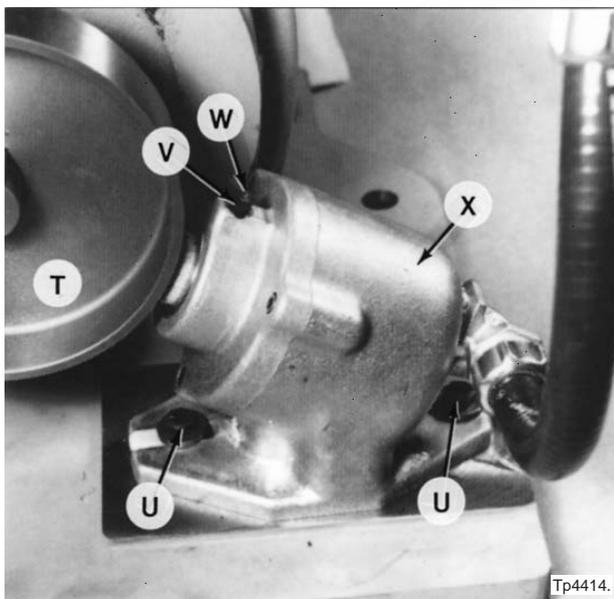

Figure 3.8 - Spindle Brake
11. Loosen mounting bolts “U” on brake assembly “X”, Figure 3.8 .
58. Install the motor belt on motor pulley "T", Figure 3.8 .